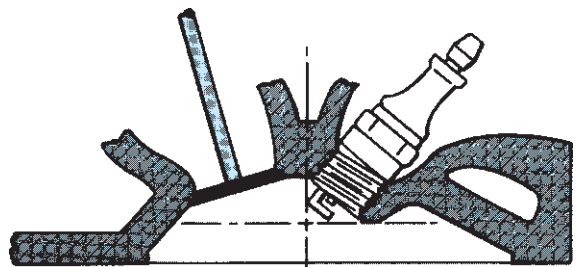

FIGURE 22-3 Locating the spark plug in the center of the combustion chamber reduces the distance the flame front must travel.
- **Spark plug placement**—The best spark plug placement is the center of the combustion chamber. See Figure 22-3. The closer to the center, the shorter the flames travel to all edges of the combustion chamber, which also reduces abnormal combustion (ping or spark knock). While it is best to have the spark plug in the center, some combustion chamber designs do not allow this due to valve size, combustion chamber design, and valve placement. See Figure 22-4 for an example of a two spark plug combustion chamber used in a hemispherical (Hemi) cylinder head design.
- **Surface-to-volume ratio**—The surface-to-volume ratio is an important design consideration for combustion chambers. A typical surface-to-volume ratio is 7.5:1, which means the surface area of the combustion chamber divided by the volume is 7.5. If the ratio is too high, there is a lot of surface area where fuel can adhere, causing an increase in unburned hydrocarbon (HC) emissions. The cool cylinder head causes some of the air–fuel mixture to condense, causing a layer of liquid fuel on the surfaces of the combustion chamber. This layer of